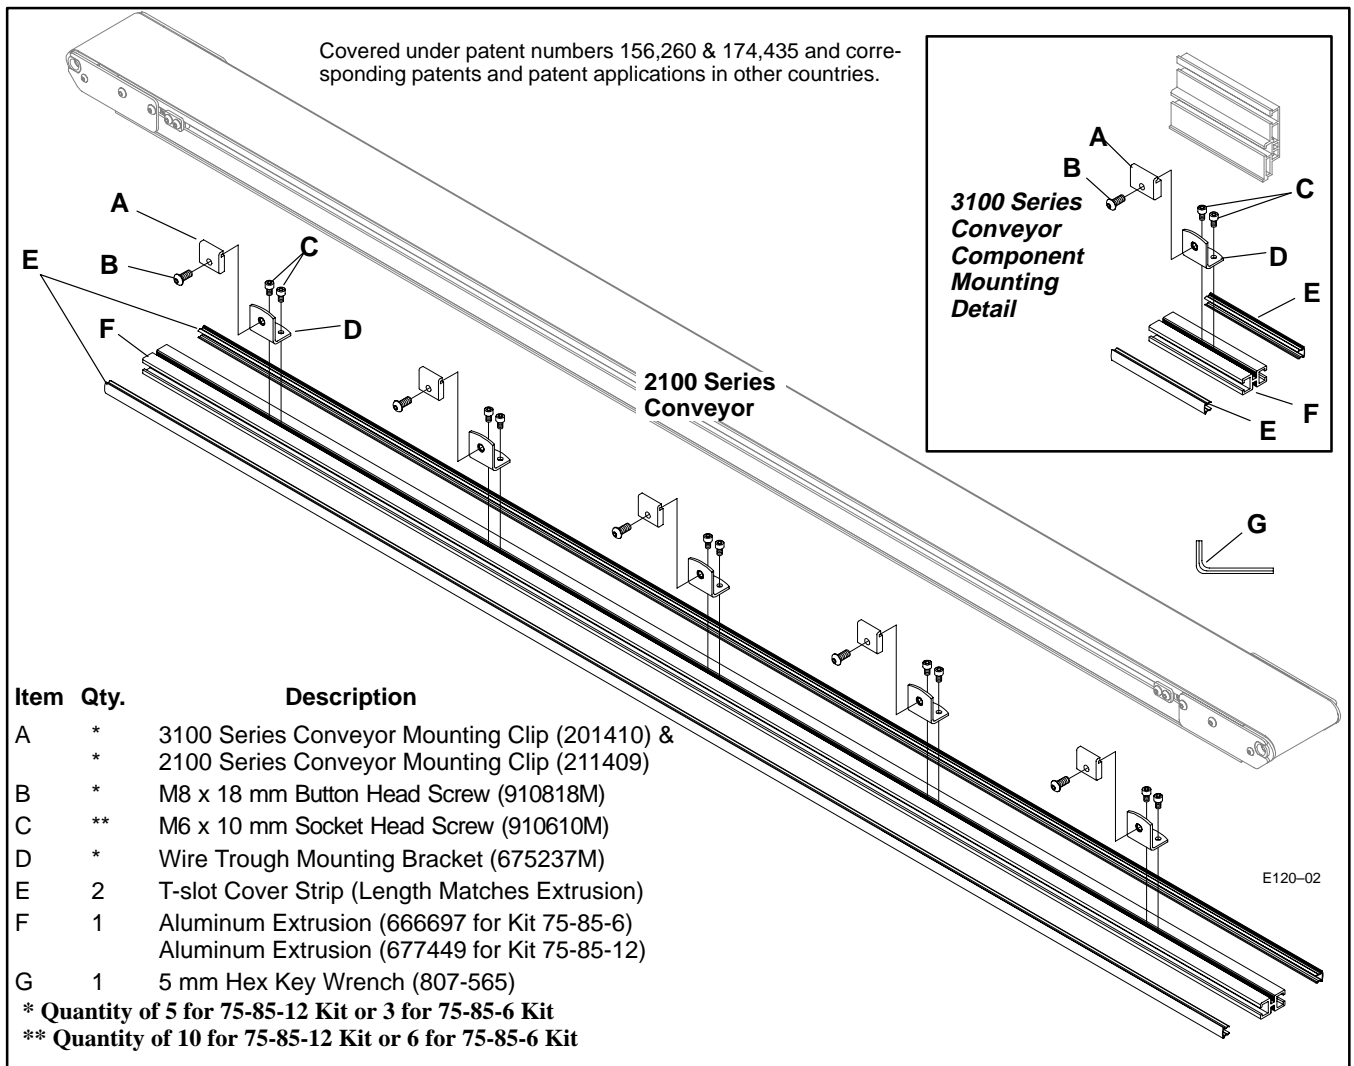

Figure 2: Wire Way Trough Kit Components
3. At the appropriate position and in the direction illustrated (Figure 2), attach and secure the Trough Mounting Bracket (D) to the Wire Way Trough (F) with the two (2) M6 x 10 mm Socket Head Screws (C). Tighten the Screws with the 5 mm Hex Key Wrench (G) provided.